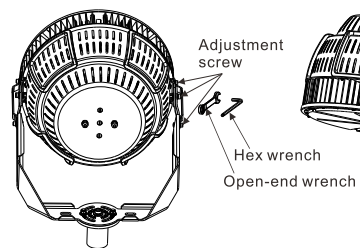

Figure 14
3. Use an open-end wrench and hex wrench to loosen the adjusting screw for adjusting the angle (Figure 14);